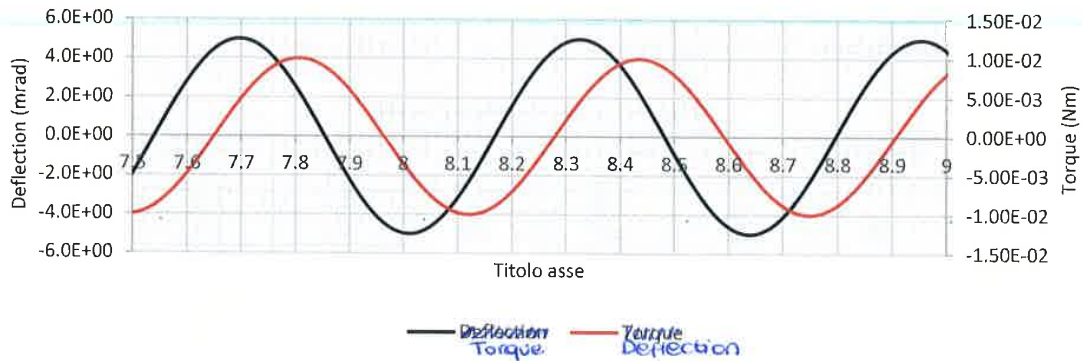

Figure 1 Deflection and torque versus time in dynamic loading of a viscoelastic material
The two curves shown in Figure 1 represents torque (M) and deflection angle (φ) monitored during a time sweep test performed with a DSR equipped with a PP08 measuring system and 2 mm gap.